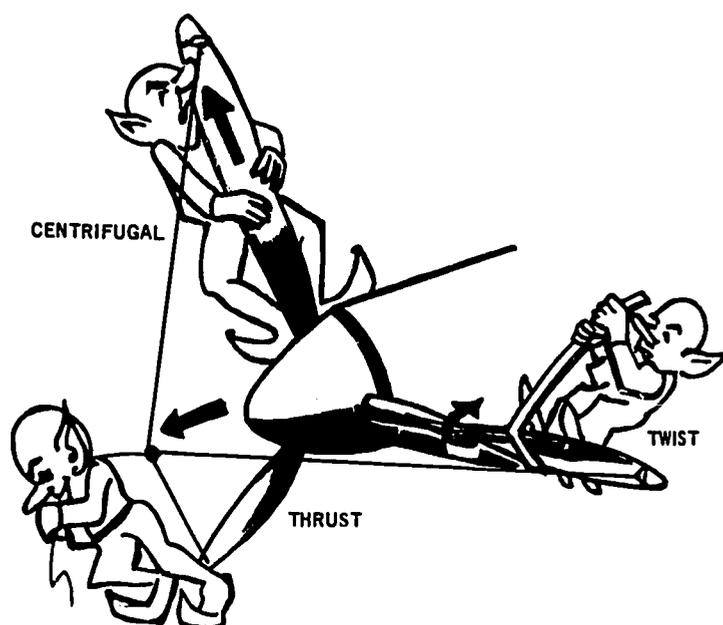

Figure 29. Forces Acting on the Propeller.
**Propeller force.**—Three forces act on a propeller in flight. They are thrust, centrifugal force, and torsion (Fig. 29).